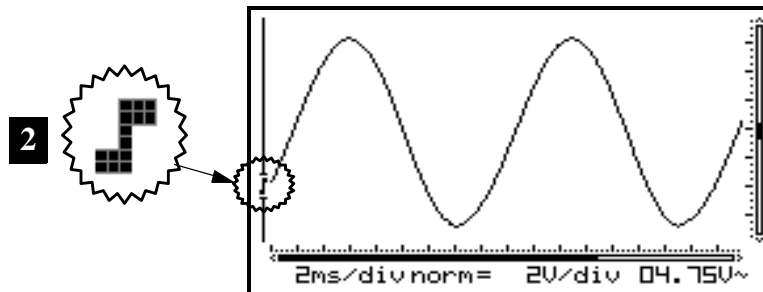

Fig 42
**2. Triggering on the falling slope of the signal:** The screen will only display the signal when a negative slope is "detected", viz. the signal has to drop in vertical direction in order to trigger. (Fig 42)